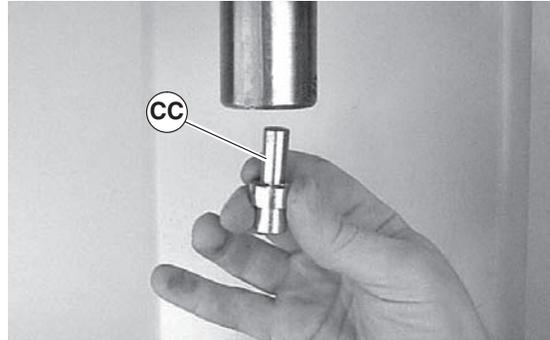

Figure 63
2. Install bearing insertion tool (Figure 63, item CC)(25-10, part of tool kit 4500) into arbor press or similar device.